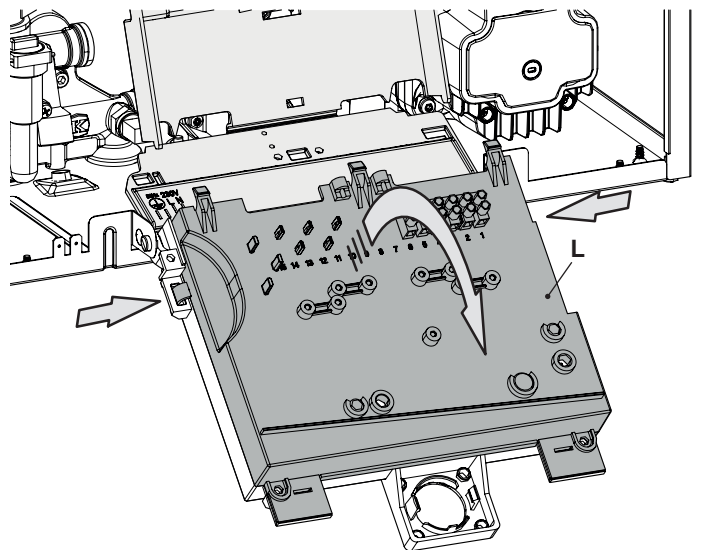

Figure 2.9
- 7 Free the hooks indicated and rotate the cover "L" (Figure 2.9).